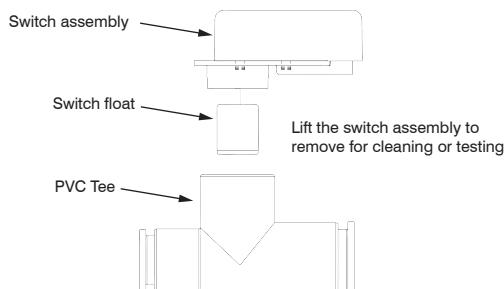

Figure 7
- e. Test for water leaks, then test the switch by lifting the float while the unit is on. To access the float, lift up the switch assembly (Figure 7). If wired correctly, the unit will stop.
- a. Remove the switch assembly (Figure 7) and place into the other 1" socket in the PVC Tee and rotate assembly 90°. Firmly press the switch into the PVC Tee. DO NOT GLUE SWITCH ASSEMBLY INTO TEE. If the fit is not tight enough, pipe tape may be used.
- d. Test for water leaks, then test the switch by lifting the float while the unit is on. To access the float, lift up the switch assembly (Figure 7). If wired correctly, the unit will stop.
1. Shut down all power to the unit and remove the switch assembly (Figure 7) from the PVC Tee.